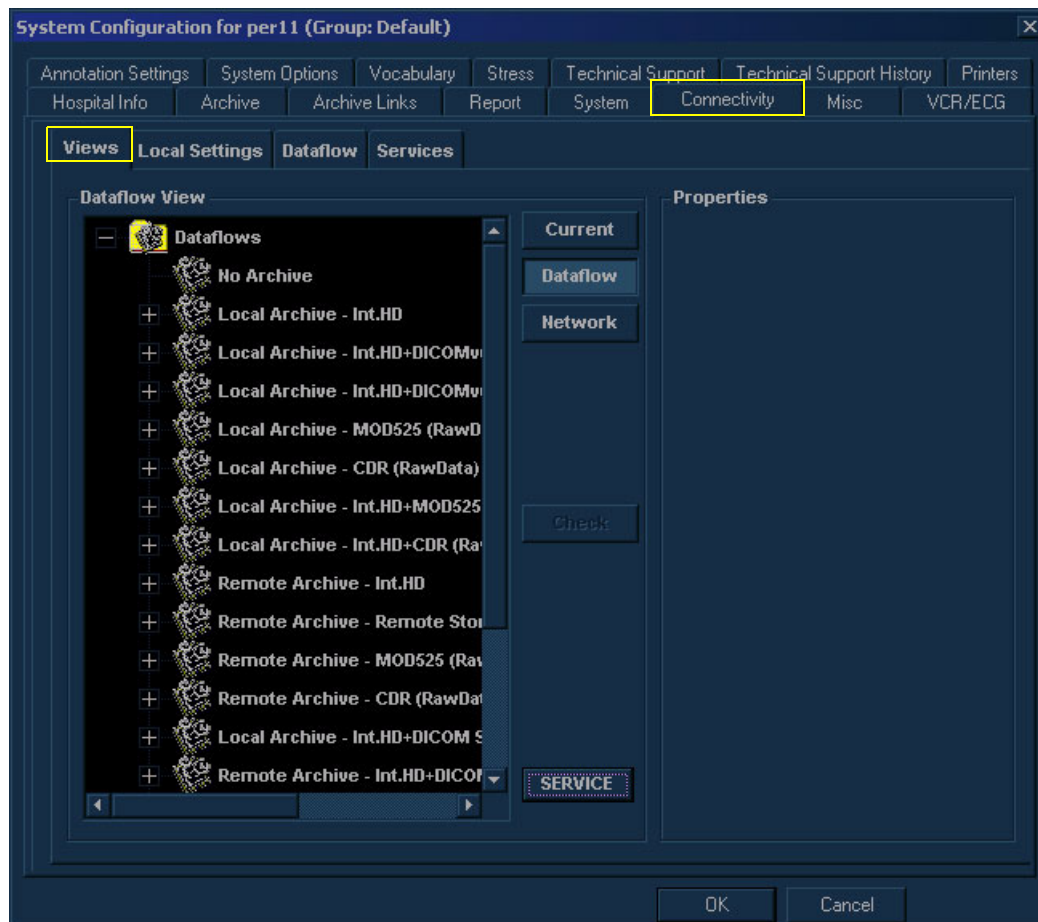

Figure 3-38 Connectivity Tab
- 3) Trackball to the **Connectivity** tab and press **Select**. The **Connectivity** tab is displayed, with the **Views** subsidiary tab selected by default, as shown in Figure 3-38 on page 3-57.